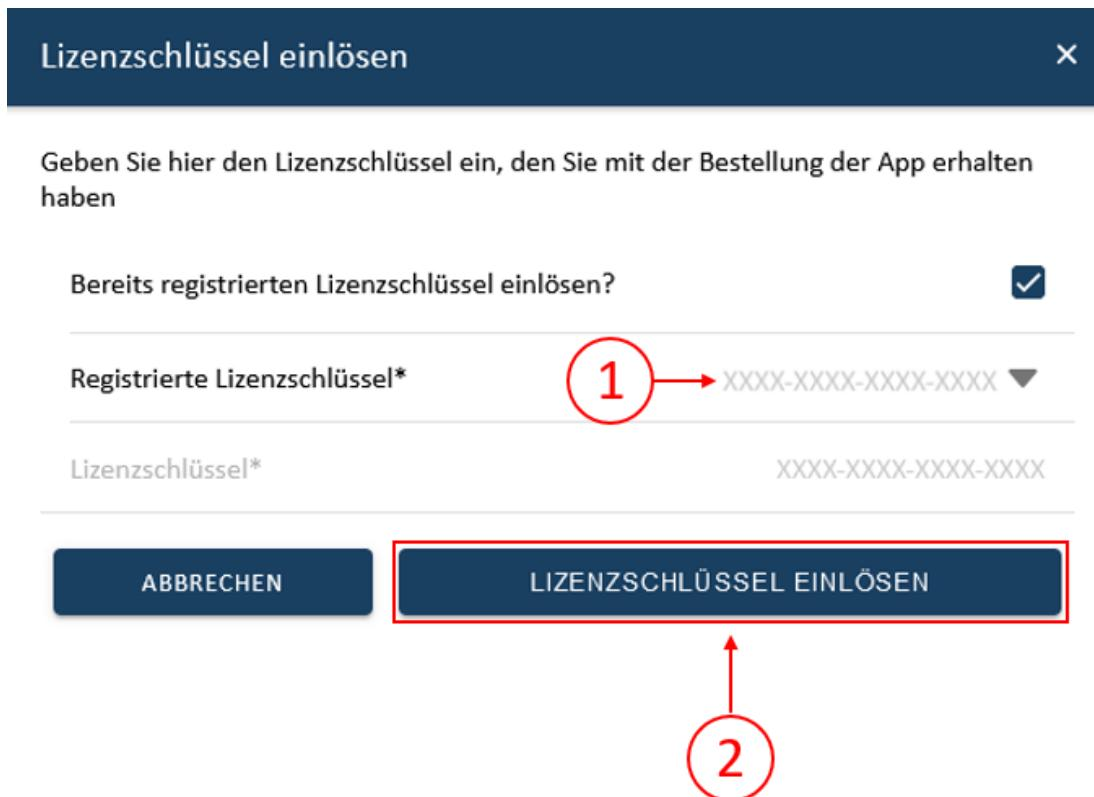

Figure 20. App installation — Variant 2: Step 5a
- Figure 20. App installation — Variant 2: Step 5a